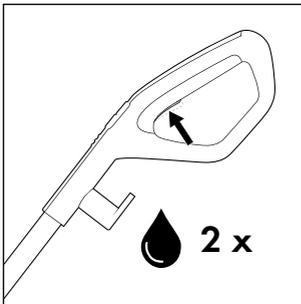
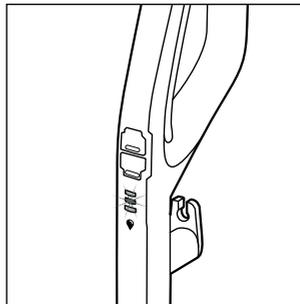

Fig. 14
Fig. 15
- ◆ Before each use, press the cleaning solution switch  **15** twice briefly to activate the continuous spray function and add cleaning solution to the rotary brush  **6** so that it is ready for operation (see fig. 14). The cleaning solution display  **12** flashes alternately blue when the continuous spray function is activated or the cleaning solution switch  **15** is being held down (see fig. 15).